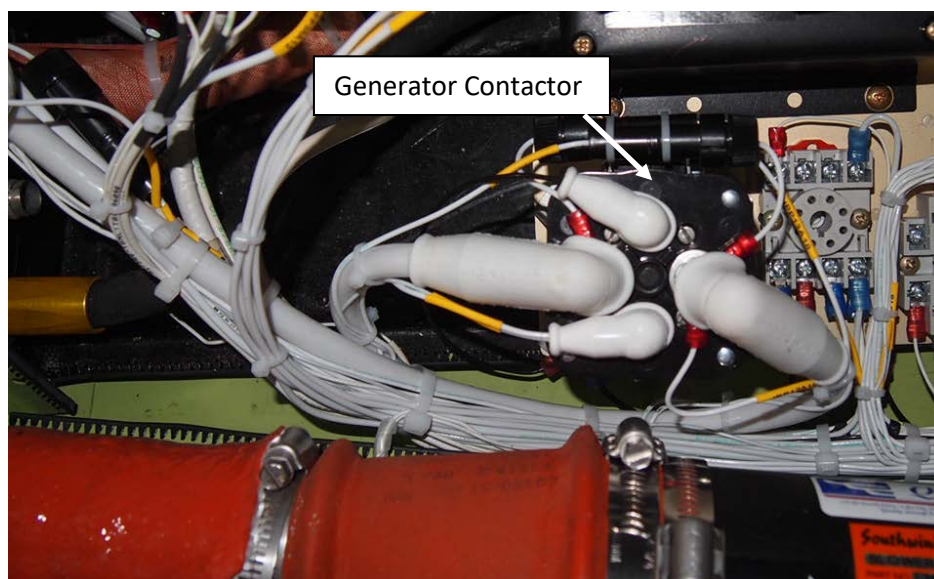

Figure 2: Generator Contactor
3. Withdraw the original 2 gauge wire between the shunt to the generator contactor in the forward cargo compartment. See Figure 2.